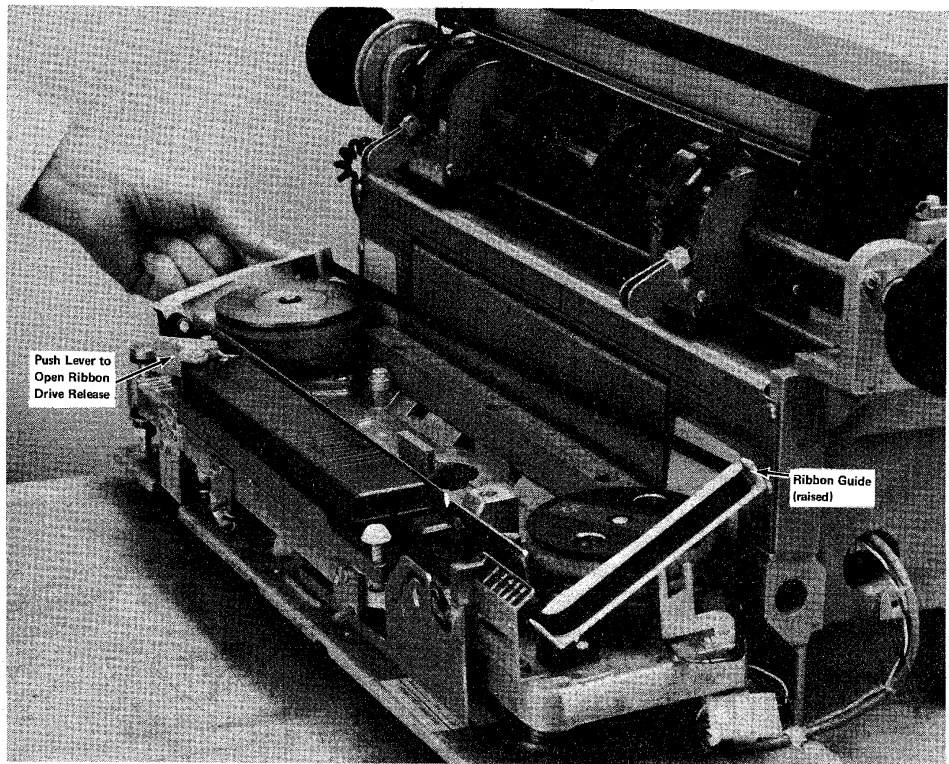

Figure 11-7. Raising Ribbon Guides
- 4 Raise both ribbon guides as shown in Figure 11-7.
- 5 Open the ribbon drive release lever as shown in Figure 11-7.
- 3 Open the ribbon drive release lever shown in Figure 11-7.
- 9 Lower the ribbon guides shown in Figure 11-7.
- 2 Raise both ribbon guides as shown in Figure 11-7.
- 6 Lower the ribbon guides as shown in Figure 11-7.